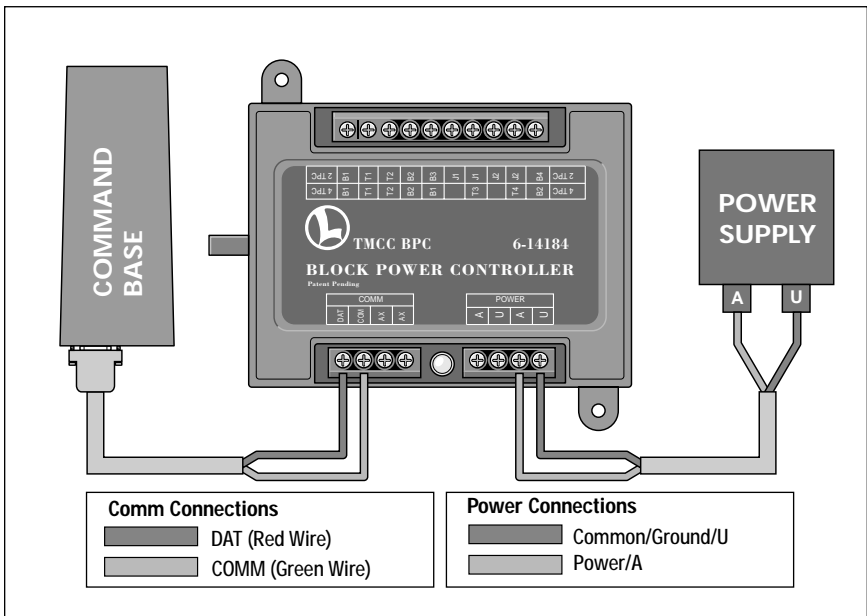

Figure 1. Power and COMM connections
Use a separate accessory power supply to power your BPC and be sure to set your transformer to 12-18 volts (AC). Figure 1 illustrates the location of the POWER terminals. Follow these steps and refer to Figure 1 as you connect your power supply to your BPC unit.
To receive your commands, the BPC will need to communicate with the Command Base. Messages from the Command Base are sent through the Command Base Cable (available separately, 6-14191 for a 6' cable or 6-14195 for a 20' cable). Follow these steps and refer to Figure 1 on page 4 to connect your BPC unit to the Command Base with the cable.